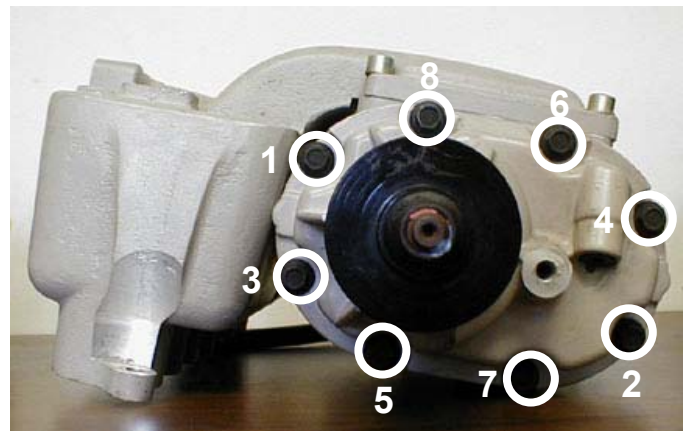

Figure 9
1. Use the pattern in Figure 9 to remove the nose drive attachment bolts.
10. Replace the 8 bolts removed in Step 1 on Page 6. Use the pattern in Figure 9 to tighten the drive assembly evenly. Torque the bolts to 20 ft-lbs.